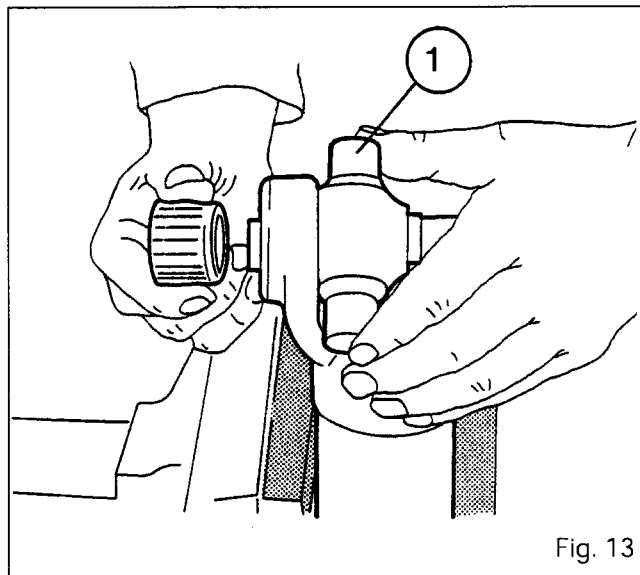

Fig. 13
89. Position the universal joint cross-pin **(1)** in the yoke and push it as far as possible to the side (Fig. 13) so that the end of the cross-pin serves as a guide for the fitting of the sleeve with the needles.